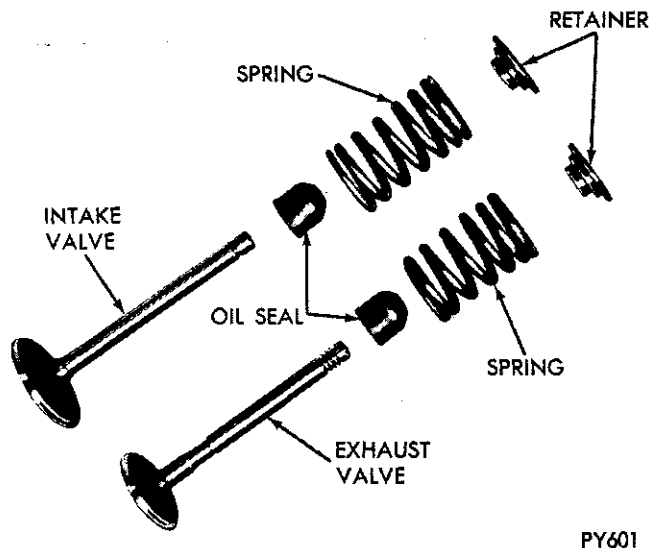

Fig. 15—Valve Assembly (Disassembled View)
(1) Coat valve stems with lubricating oil and insert them in position in cylinder head.
(2) Install new cup seals on the intake and exhaust valve stems and over valve guides (Fig. 15 and 16) and install valve springs and retainers.
(3) Compress valve springs with Tool C-3422A. Install locks and release tool.